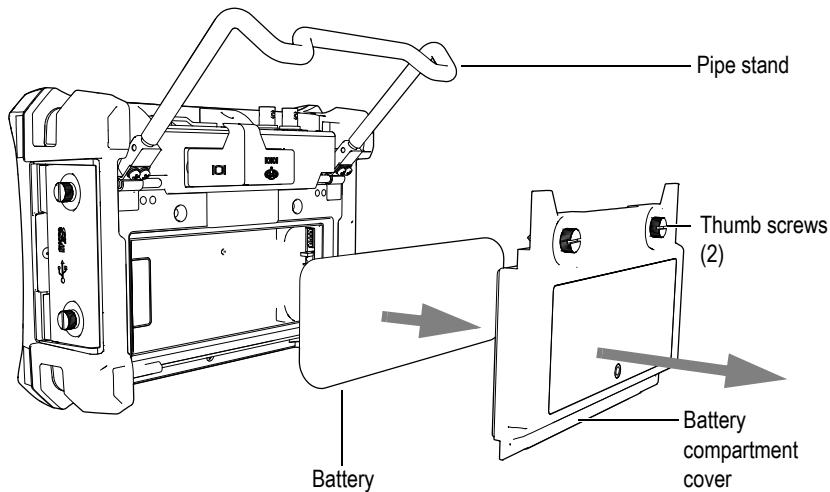

Figure 12-1 Removing the lithium-ion battery
2. Fully unfold the pipe stand at the back of the instrument (see Figure 12-1 on page 310).